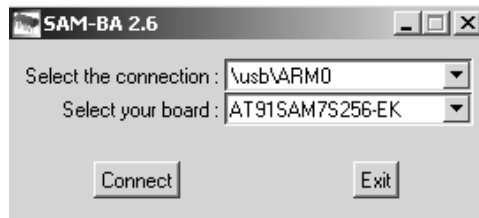

Fig.1 SAM-BA Start Up Window
- b. Run program SAM-BA select the connection port as "\usb\ARM0", select board as AT91SAM7S256-EK", please see figure 1 below.